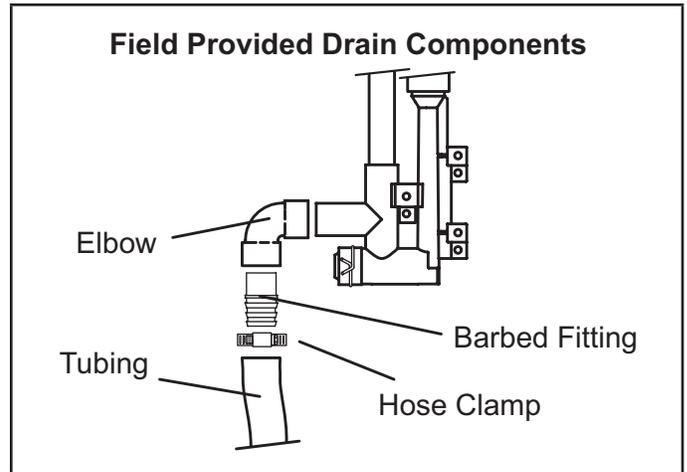

FIGURE 49
**NOTE** - Appropriately sized tubing and barbed fitting may be used for condensate drain. Attach to the drain on the trap using a hose clamp. See FIGURE 49.